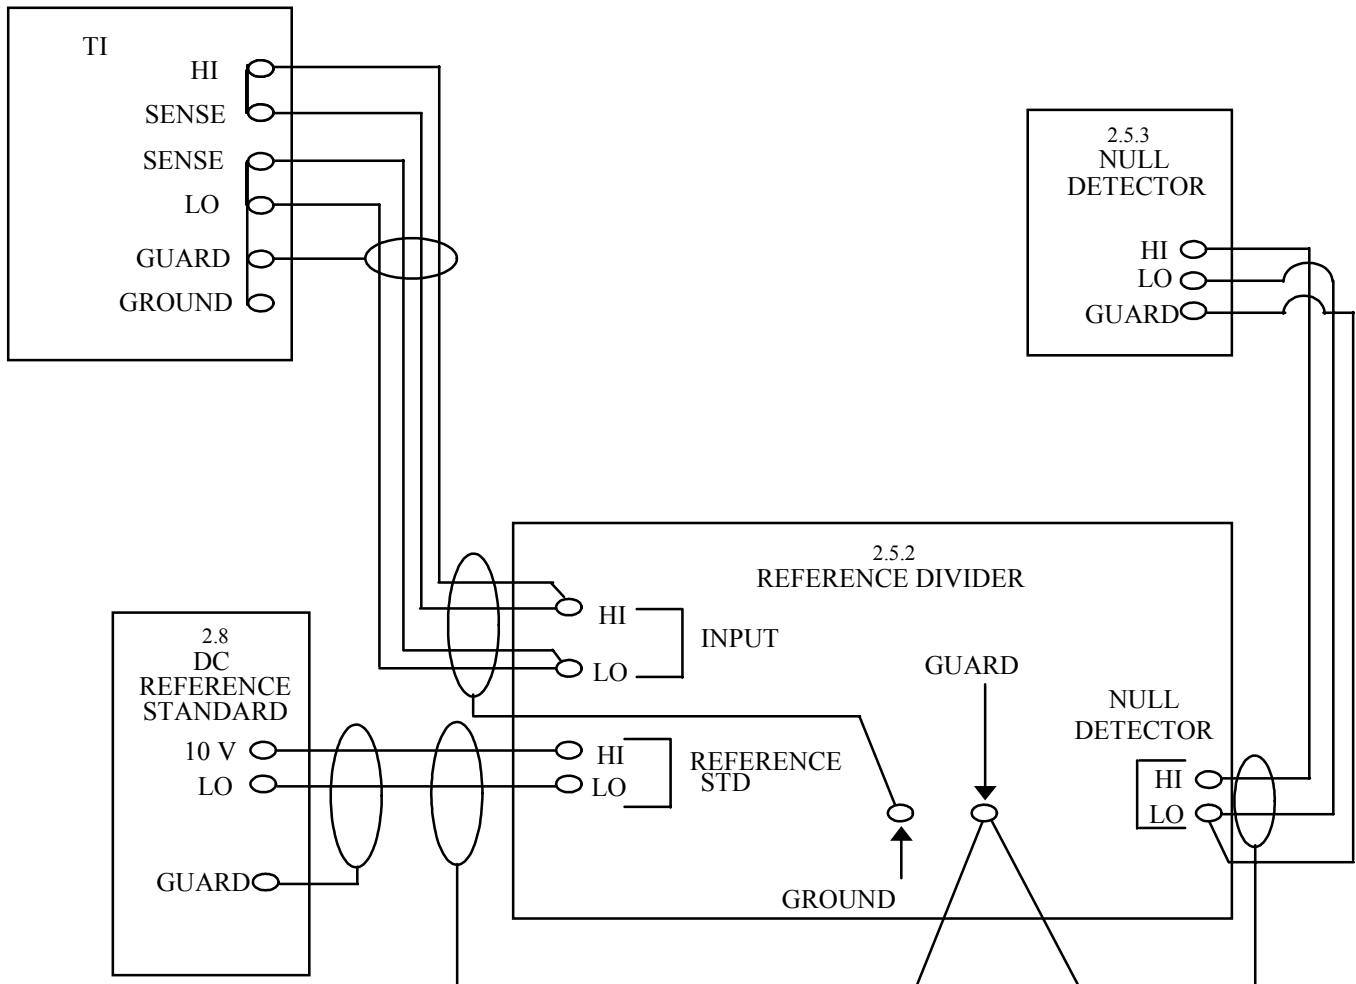

Figure 5. Range Accuracy Test Configuration Using the 752A Reference Divider
4.5.2.2 Connect the equipment as shown in Figure 5.